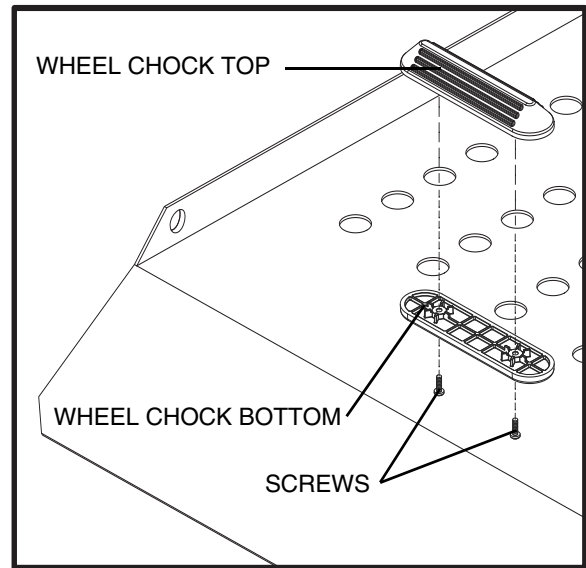

Figure 11. Wheel Chock Installation
6. Position the wheel chock bottom on the underside of the platform, aligning it with the wheel chock top. **See figure 11.**
7. Secure the wheel chock sections to the platform using the supplied hardware. **See figure 11.**